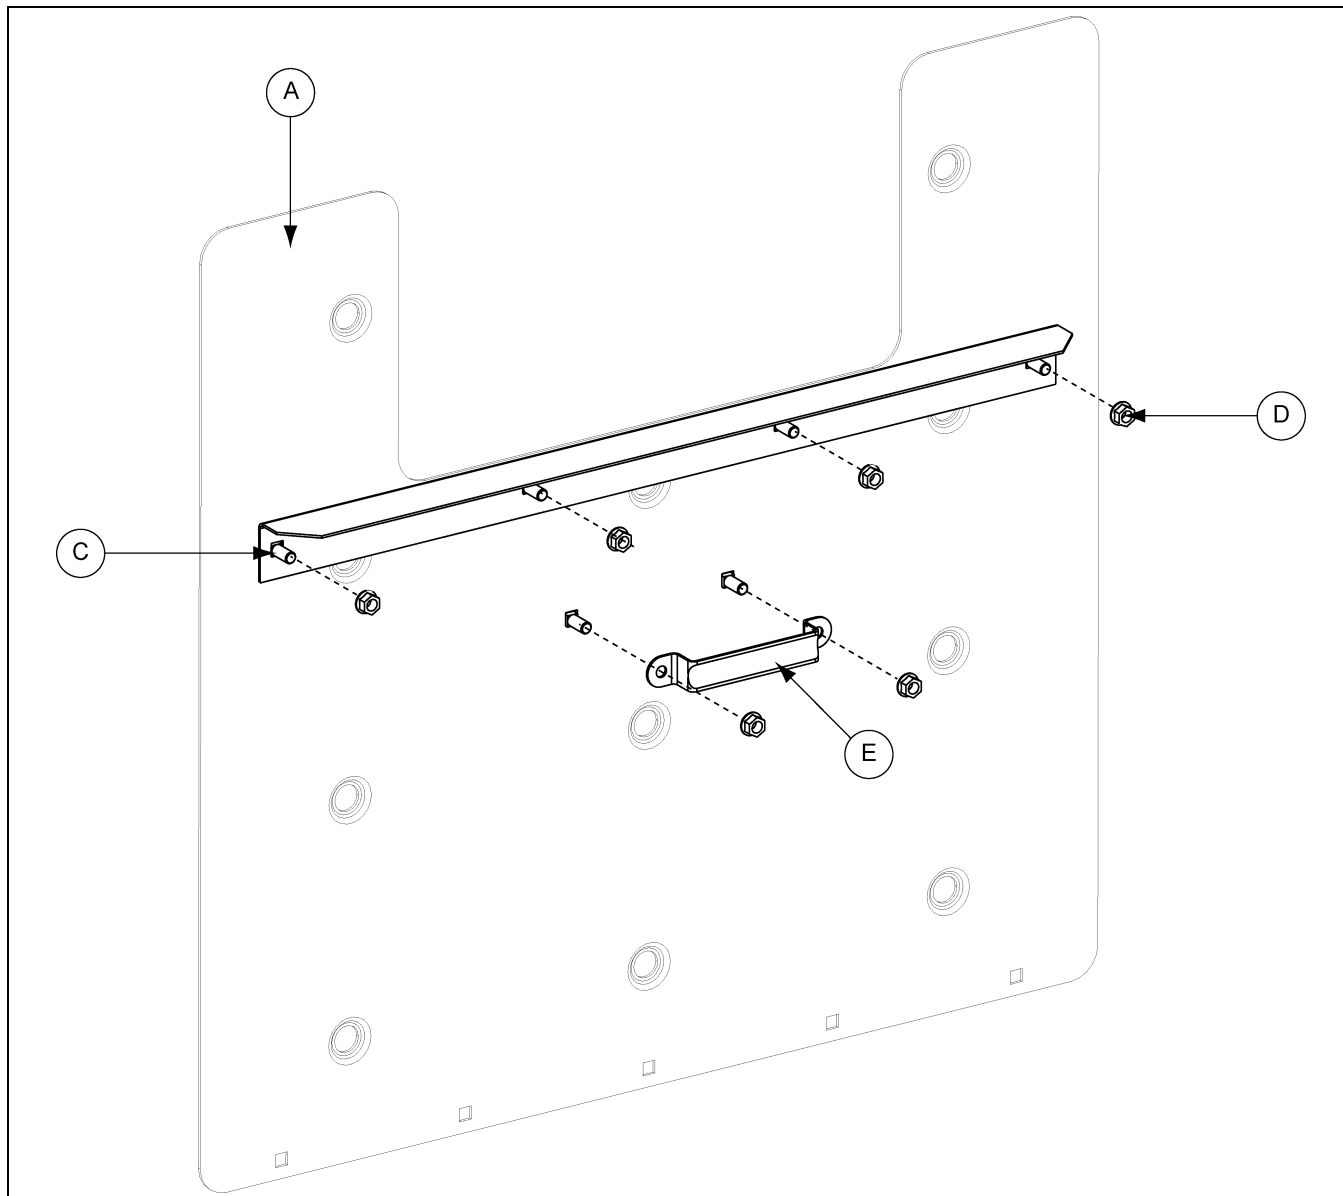

Figure 9B
2. Install hatch support (HP1624HS) to the bottom of the hatch door using 3/8" x 1" carriage bolts and nuts. (See Figure 9B.)